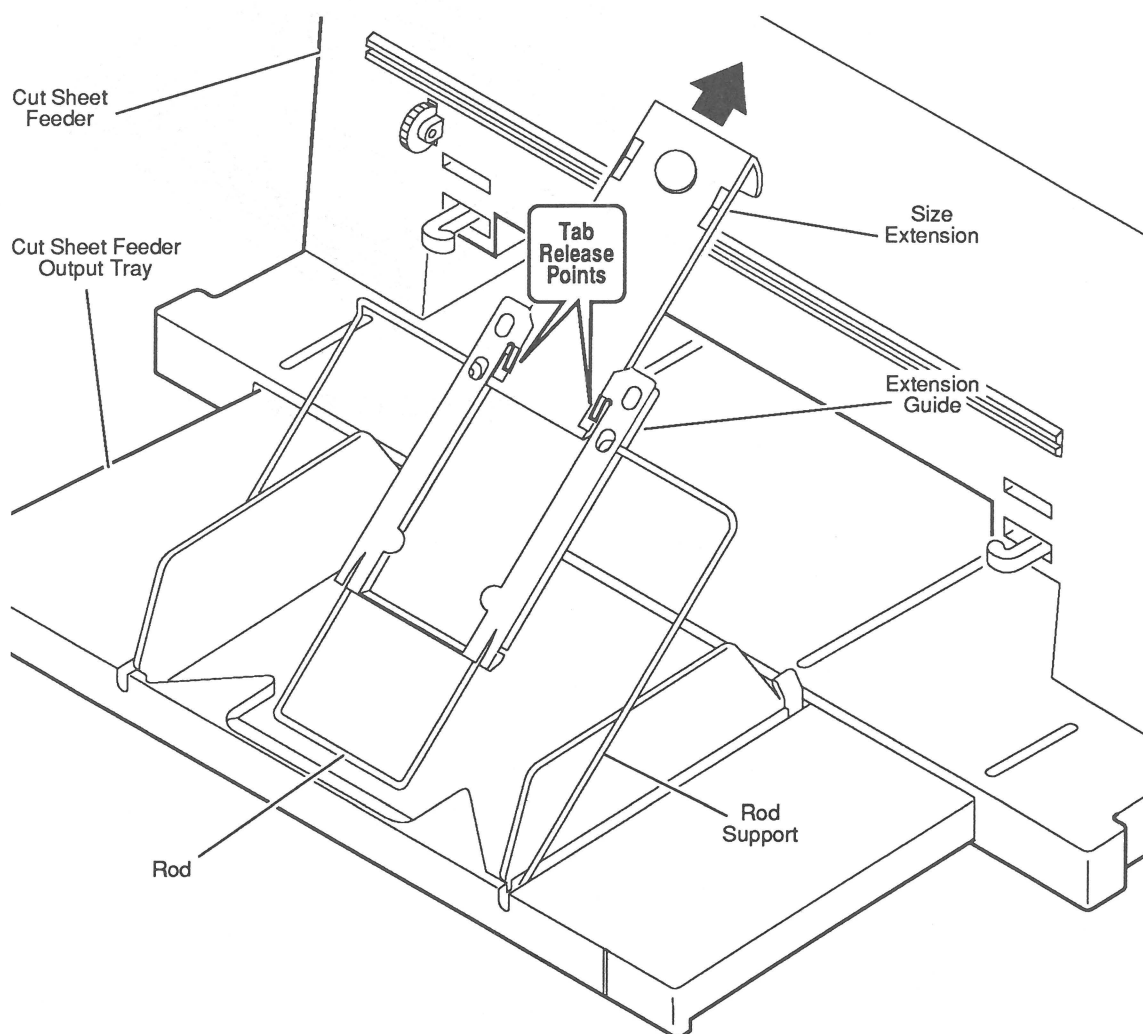

Figure 2-12 Output Tray Size Extension
2. Open the output tray on the cut sheet feeder and tip up the extension so that you can see the underside (**Figure 2-12**).